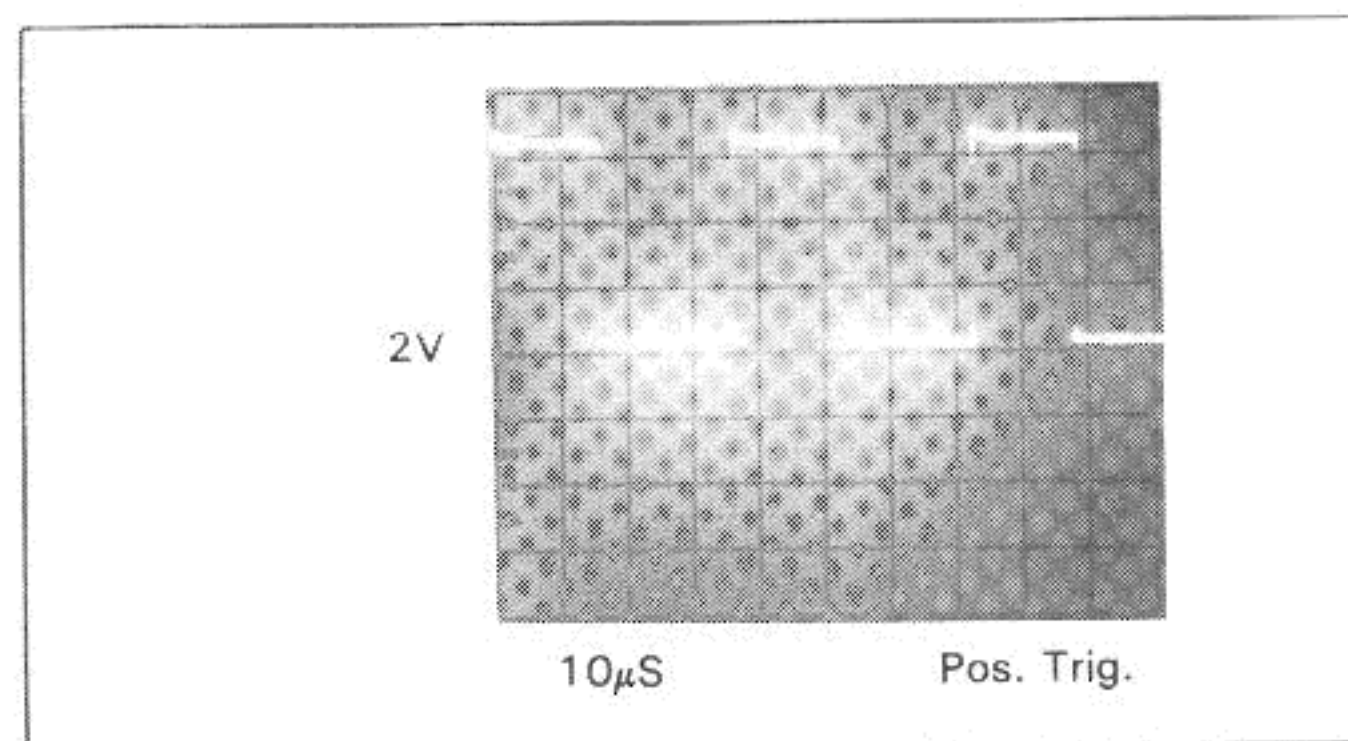

Figure 7-E-1. Output of U905
1. Using an oscilloscope, make sure the signal at jumper JM902 of U905 is a 28KHz square wave, as shown in Figure 7-E-1.